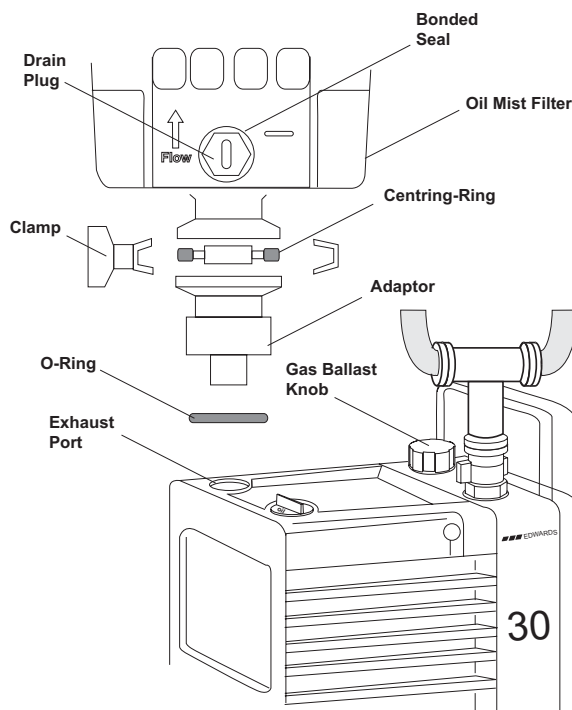

Figure 1-5. Connecting the oil mist filter to the exhaust port
- e. Fit a centering ring to the adapter as shown in Figure 1-5.